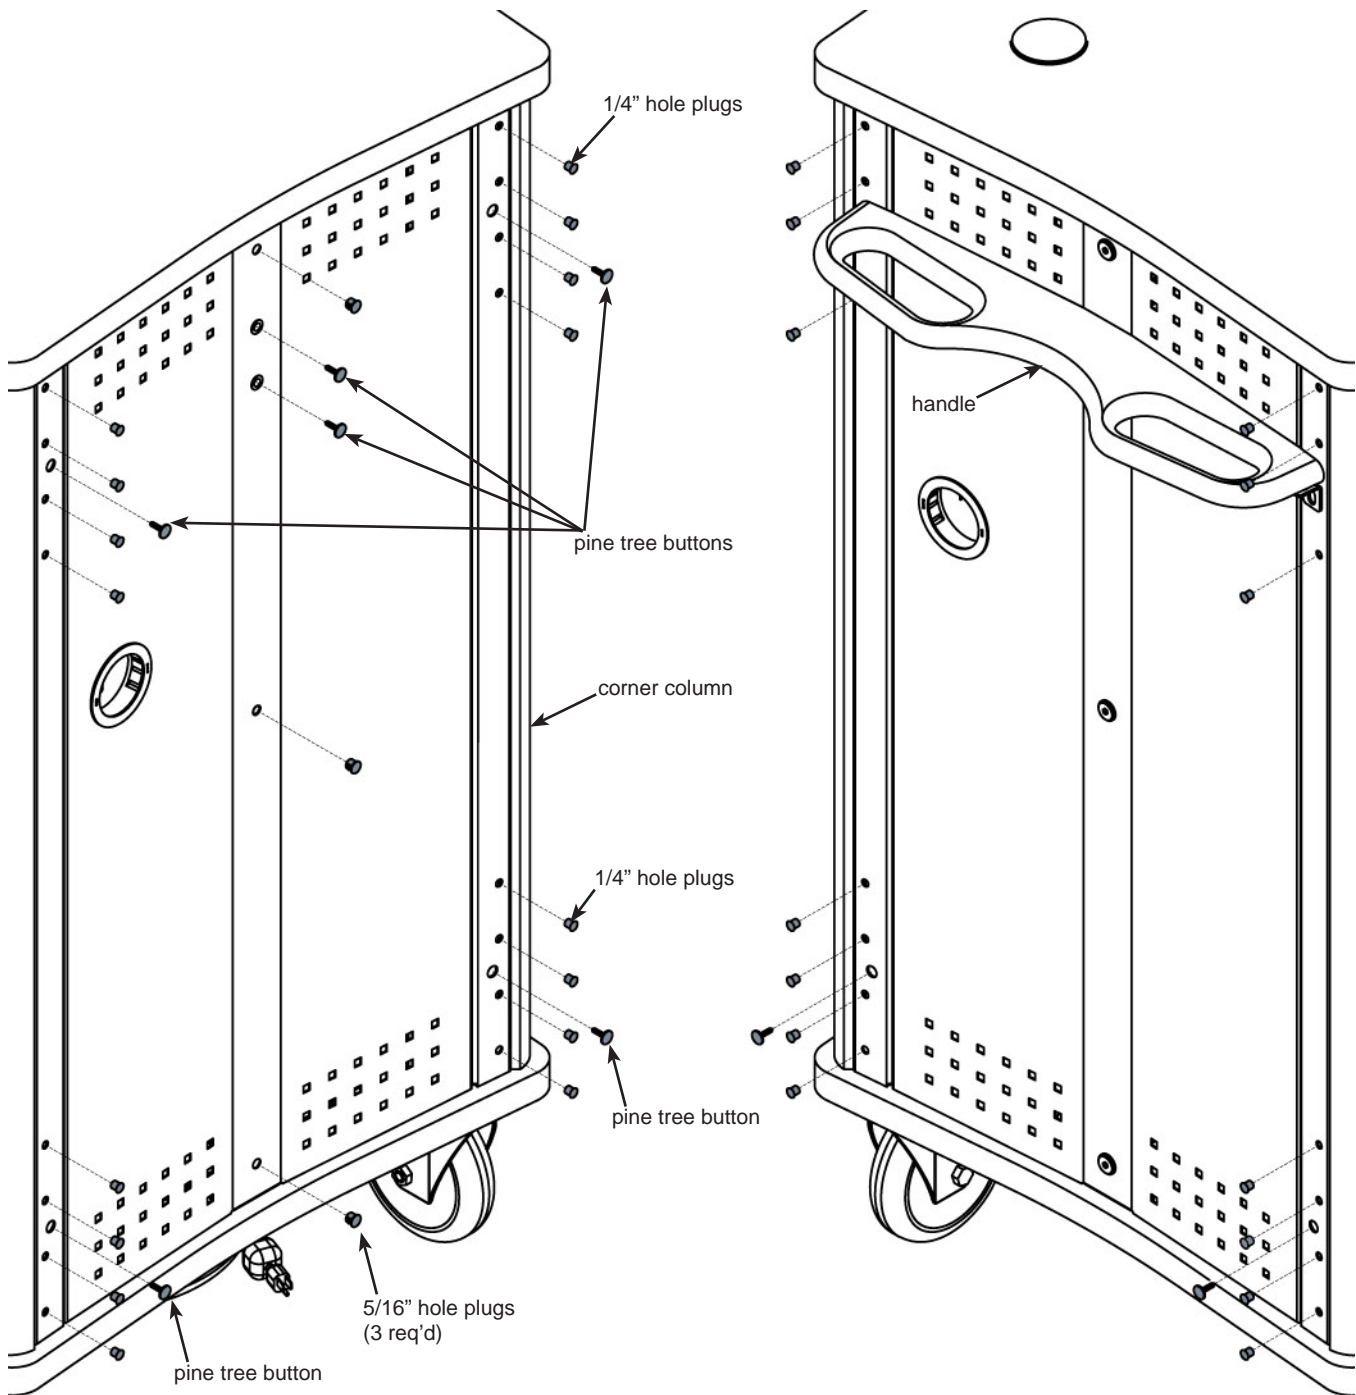

Figure 3
- A. If one side of the unit will not have a handle or flip-up shelf attached, install pine tree buttons in the unused mounting holes as shown. **Figure 3.**
- B. Install (3) 5/16" hole plugs in the center of the side panel.